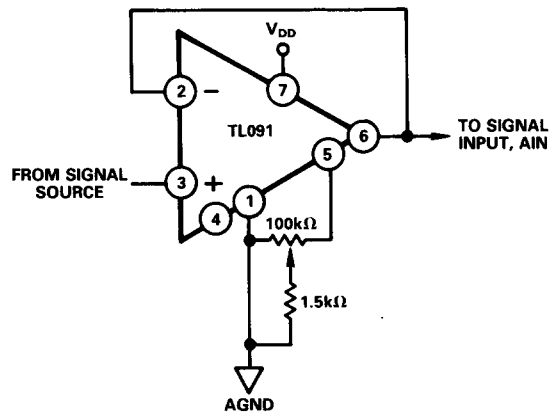

Figure 13. Offset Adjust Circuit
3. **OFFSET ERROR:** Offset error adjustment in single-supply systems may be easily achieved by means of the offset null facility of an op-amp when used as a voltage follower for the analog input signal AIN (see Figure 13). The op-amp chosen should be able to operate from a single supply and allow a common-mode input voltage range that includes 0V, e.g. TL091. To adjust for zero offset error the input signal source is set to +4.8mV (i.e., 1/2 LSB) while the 100kΩ potentiometer is varied until the ADC output code flickers between 000...00 and 000....01.